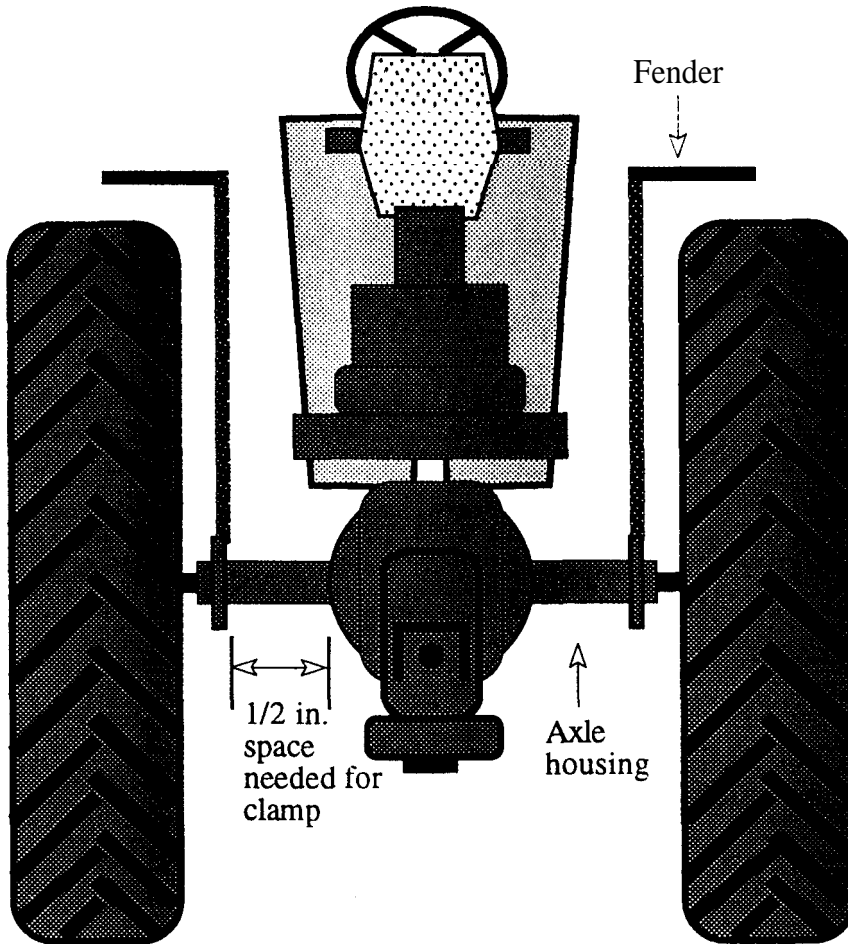
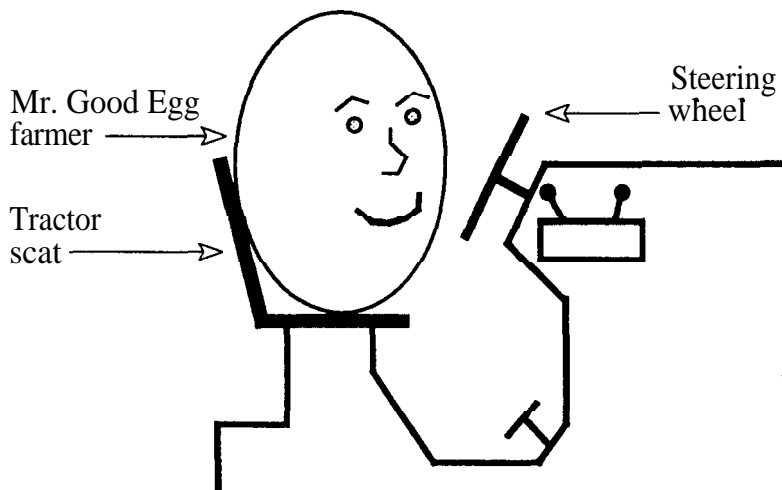

Figure 1: Back view of model tractor
Figure 2: Mr. Good Egg farmer on tractor seat
1. Obtain a 1/16th scale model farm tractor without a ROPS. These are available from tractor equipment dealers and farm supply stores for about \$30. (Many farm safety instructors already have model tractors.) Make sure the real tractor that the model represents has a ROPS retrofit package available. (You don't want to convey false information to the participants.) Also make sure the scale model tractor you purchase has sufficient space on the rear axle between the tractor fenders and the tractor body to fit a small clamp (see Figure 1). Check to make sure that the seat is back far enough from the steering wheel that a medium size hen's egg can be placed in the seat (see Figure 2).
A 1/16th scale model of an International Farmall 856 works well because (a) there is 1/2 inch of space on the rear axle housing between the tractor fender and the tractor body, (b) the seat is large enough and back far enough from the steering wheel to accommodate even a large hen's egg, (c) the seat is large enough to attach two Velcro sticky back squares, one on the seat bottom and the other on the upright seat back, and (d) a retrofit ROPS package is available for actual Farmall 856 tractors. The instructions and drawings that follow explain how to construct a ROPS for this 1/16th inch scale tractor. If you use another tractor scale model, you will need to adjust the specifications given in Figures 1 - 9.